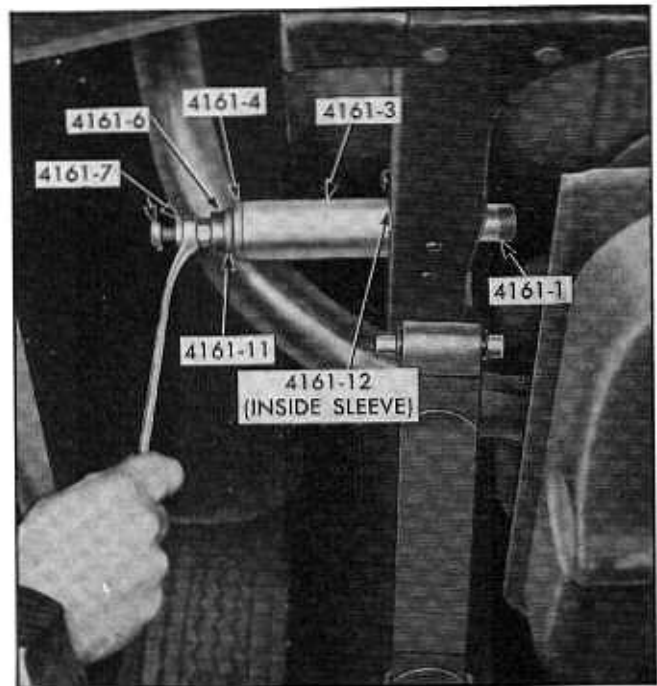

Fig. 4-55 Bushing Replacer Tool J-4161-A Positioned For Removal of Rear Bushing
c. With all parts of tool properly positioned, turn hex nut of 4161-7 (Fig. 4-55) until bushing is pulled out of frame into sleeve of tool.